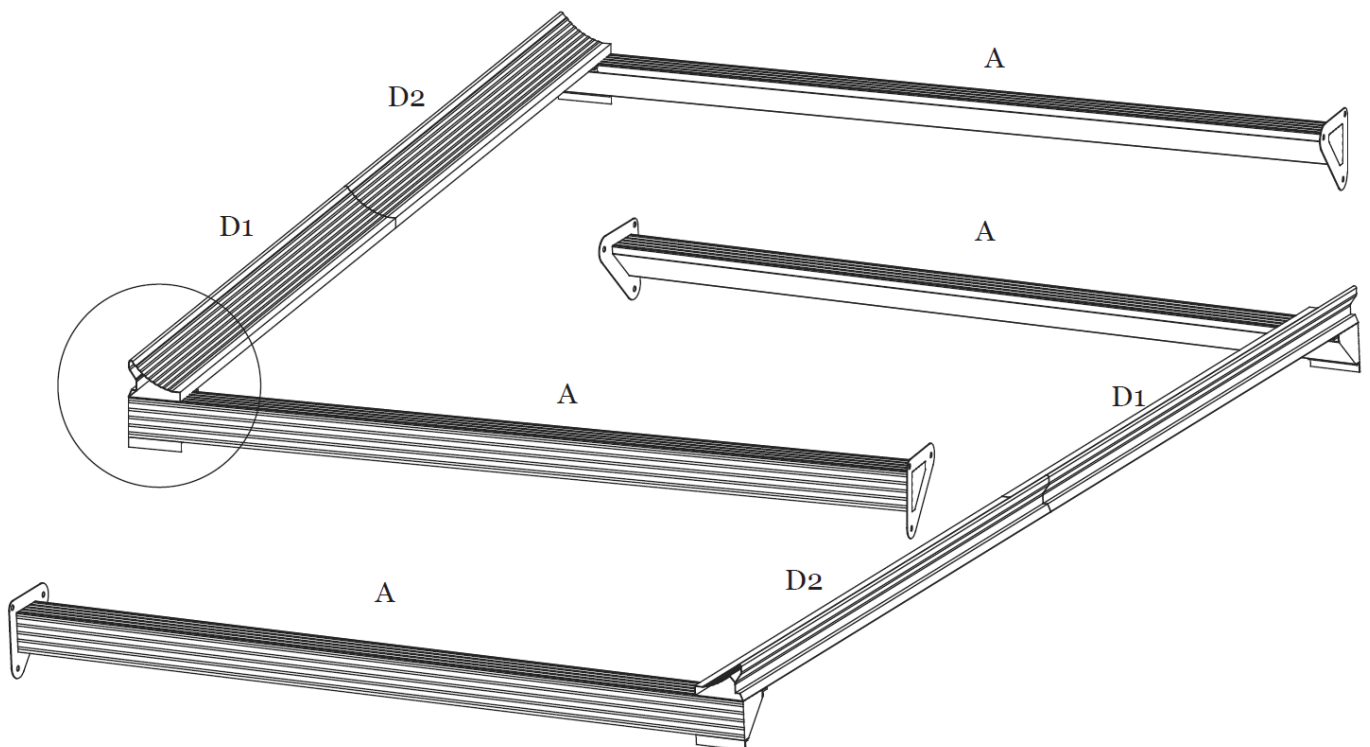

Figure 3-2
Step 3B: Repeat for opposite side Long Lintels (D1 and D2) and Corner Posts (A). See Figure 3-2.